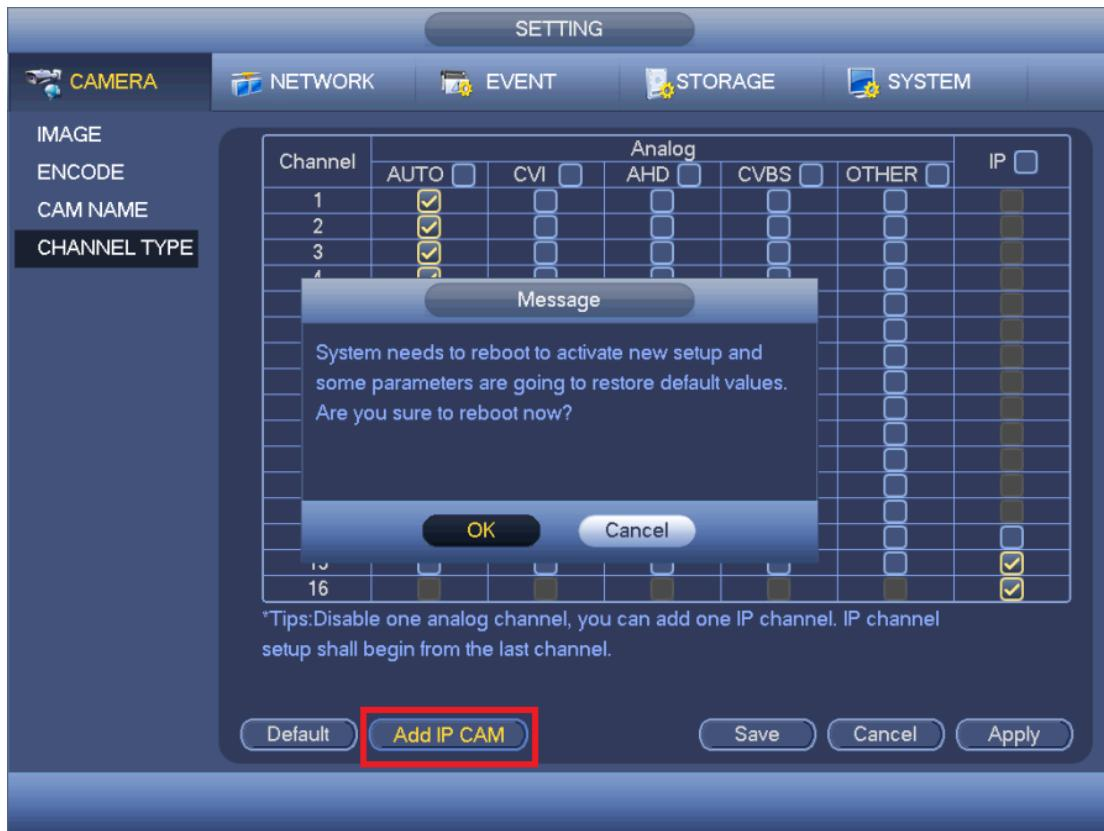

Figure 4-81
- Add IP CAM: Click it; you can add corresponding X IP channels. Here X refers to the product channel amount such as 4/8/16. System needs to restart to activate new setup. See Figure 4-81.